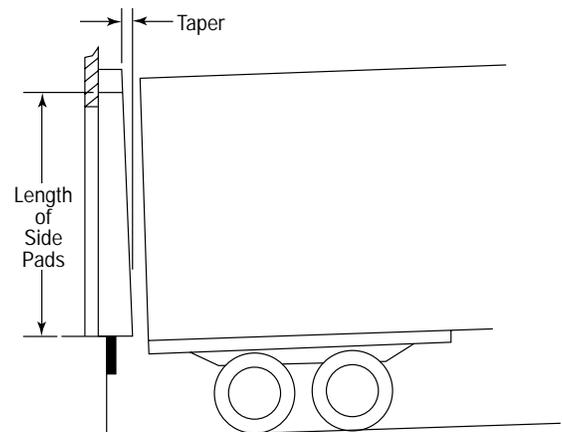

Fig. 57
- When the driveway is recessed and the driveway slope is more than 2%, specify a tapered seal (Fig. 57). For each 1% of driveway grade, the seal should be tapered 1" over its length.